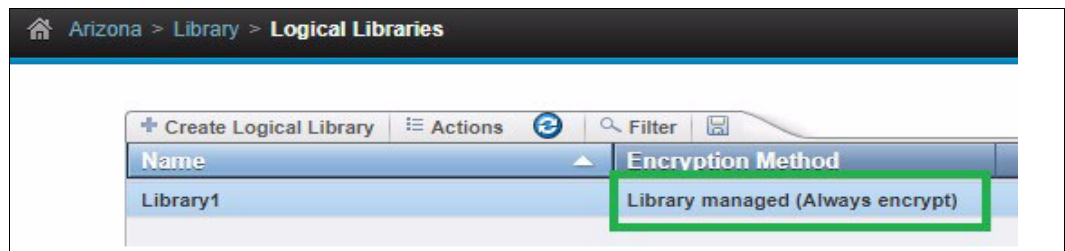

Figure 3-7 Verifying that the Encryption Method is Library managed (Always encrypt)
6. On the Logical Libraries page, verify that the encryption method for the logical library is Library managed (Always encrypt) (see Figure 3-7).